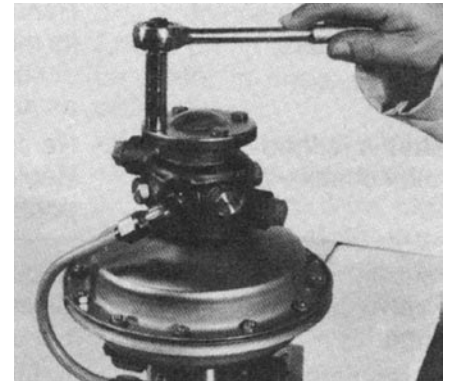

Figure 4-2 Removing air valve cover.
- 4.3 Unscrew the four cap screws (3) to remove the air valve cover (1) and its O-ring (2). See Figure 4-2.